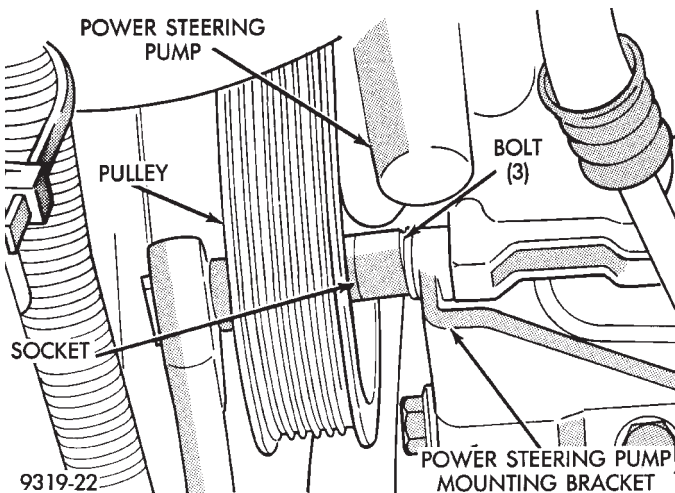

Fig. 19 Power Steering Pump Mounting Bolts
(8) Remove the 3 bolts attaching the power steering pump to power steering pump bracket (Fig. 19). Access to the power steering pump mounting bolts is through the holes in the power steering pump drive pulley (Fig. 19).
(2) Install power steering pump back on mounting bracket. Install the 3 bolts attaching the power steering pump to the mounting bracket (Fig. 19). Tighten the power steering pump mounting bolts to a torque of 54 N·m (40 ft. lbs.).